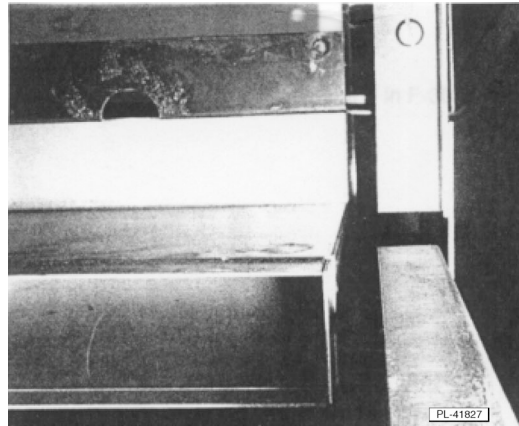

Fig. 7
4. Carefully guide support channels into the two openings provided at the rear of the range (Fig. 7).